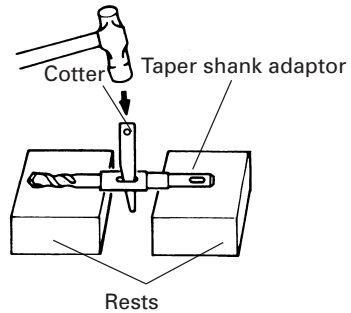

Fig. 14
- (4) To remove the drill bit (taper shank), insert the cotter into the slot of the taper shank adaptor and strike the head of the cotter with a hammer supporting on the rests. (Fig. 14)